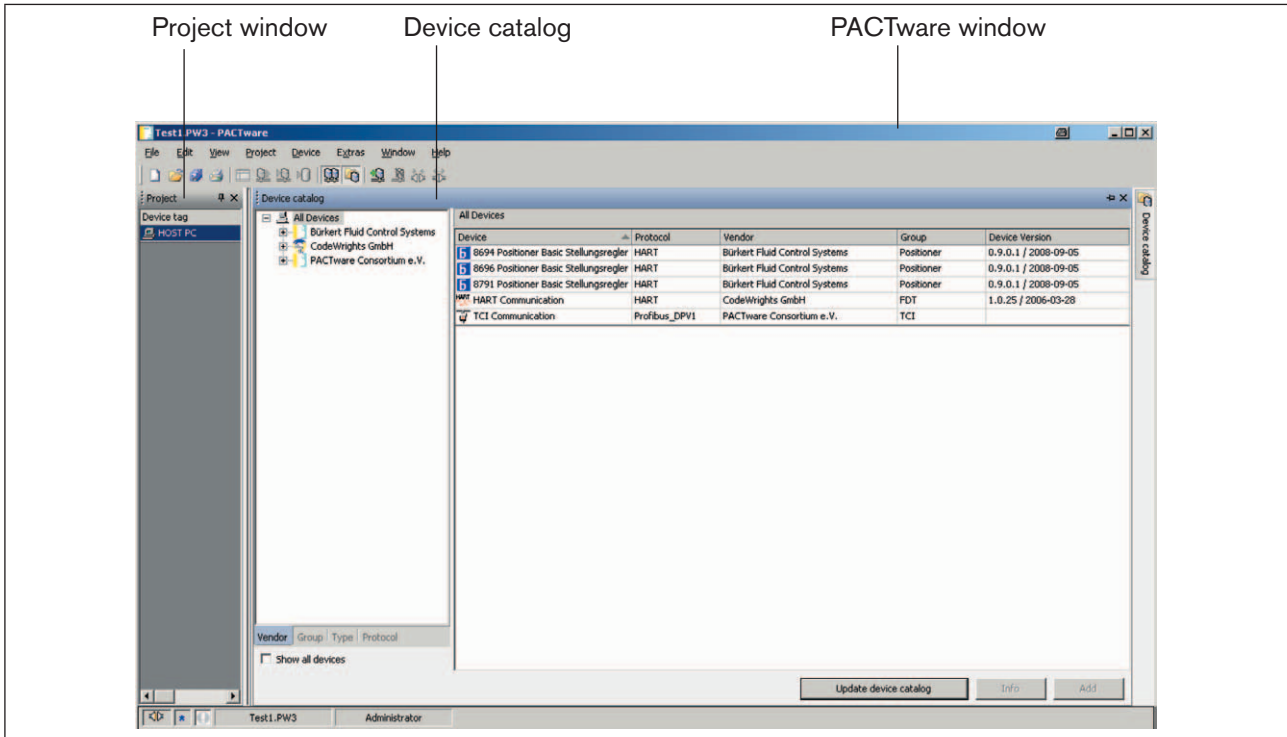

Fig. 11: Device catalog with HART Comm DTM and Bürkert device DTMs
- After the device catalog is opened again, the Bürkert device DTMs are present; see "Fig. 11: Device catalog with HART Comm DTM and Bürkert device DTMs"